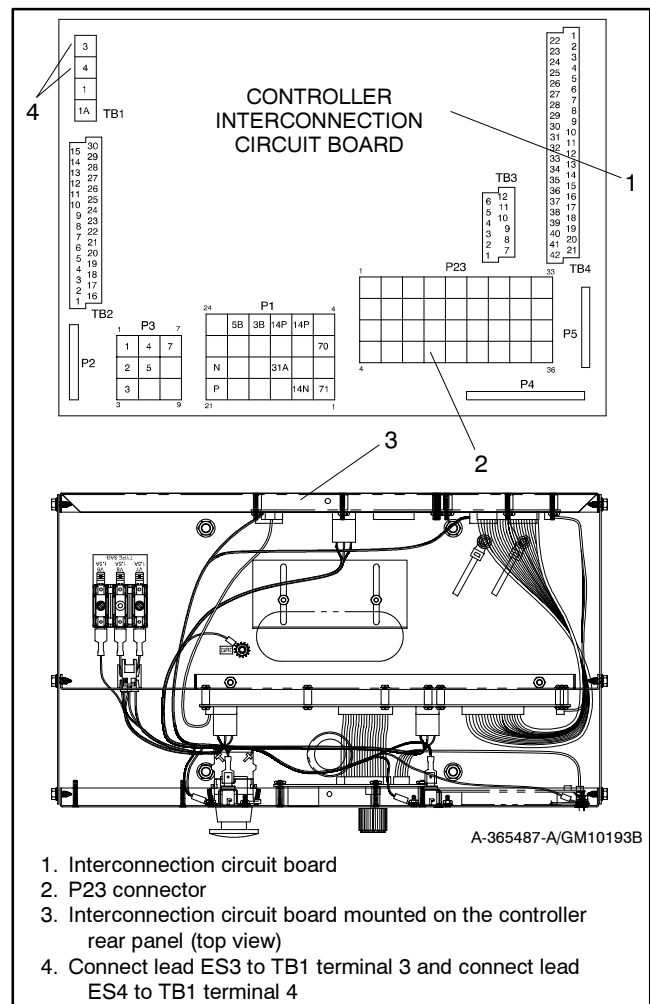

Figure 3 Attaching Wiring Connection Harness to the Interconnection Circuit Board
- 2.1.7 Plug the wiring harness connector into the controller interconnection circuit board's P23 connector. Connect lead ES3 to TB1 terminal 3 and connect lead ES4 to TB1 terminal 4. See Figure 3. If access to the controller interconnection circuit board is difficult, remove the two controller panel top screws and center bottom screw and then loosen the bottom screws to swing the rear controller panel down.